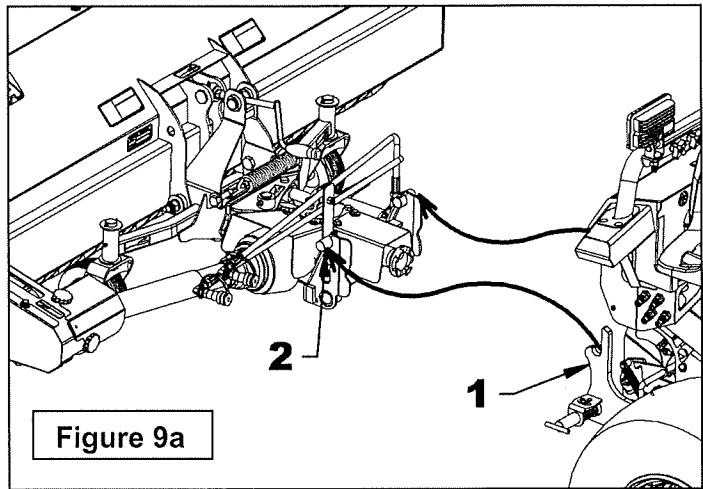

Figure 9a
4. **Figure 9a: LOWER** the 4pt hitch (item 1) until the vehicle starts to raise, then activate the **FLOAT** mode (see the "Handle Control Function" Table on page 22).